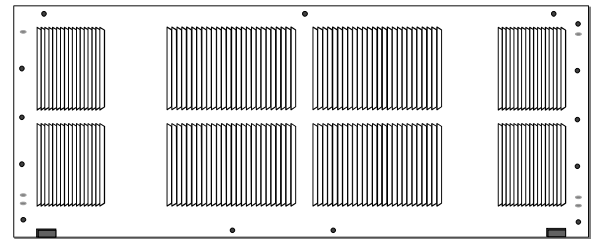

Figure 3
4. Align the guide pins located in the lower right- and left-hand corners of the grille (Figure 3) with the corresponding holes in the rear of the wall sleeve.